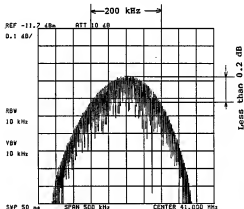

Fig. 11-64 41 MHz B.P.F. adjustment
- (3) 39 MHz mixer oscillator and B.P.F. adjustment
- (d) While varying the output frequency of the signal generator, observe the response of the 41 MHz B.P.F. with the external spectrum analyzer. Adjust C48, C51, C55, and C58 until the output level variation is less than 0.2 dB in the frequency range of 41 MHz  $\pm$  100 kHz, and the response is centered on that frequency. (See Figure 11-64.)